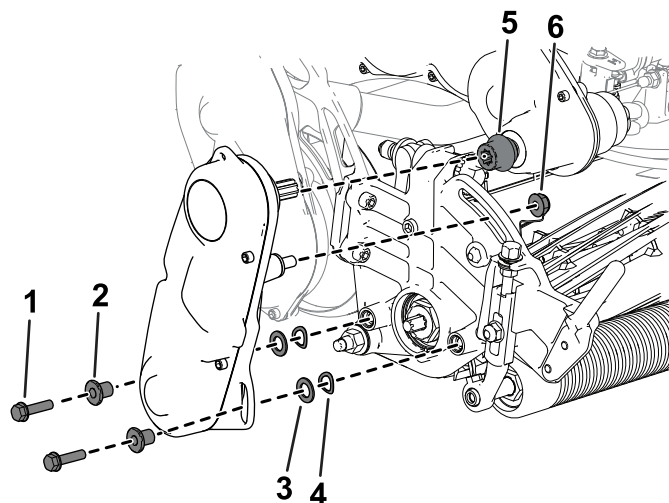

**Figure 7**
- A. Use 4 socket-head screws to install the cutting unit to the machine (Figure 7).